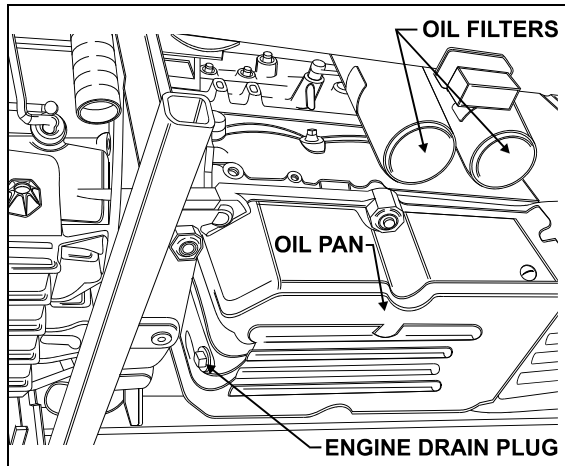

FIGURE 13: UNDER VEHICLE VIEW
1. From under the vehicle, remove the engine drain plug on the oil pan. Allow oil to drain (Fig. 13).